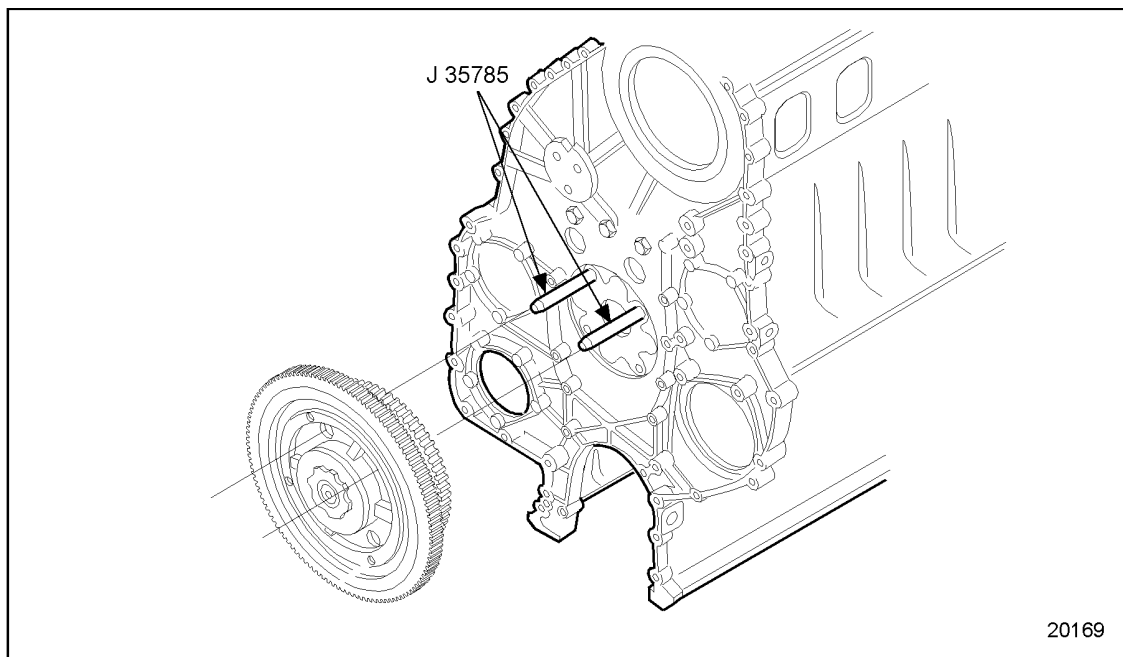

Figure 1-190 Bull Gear Guide Stud Installation
15. Install two bull gear guide studs, J 35785 to the cylinder block. See Figure 1-190.